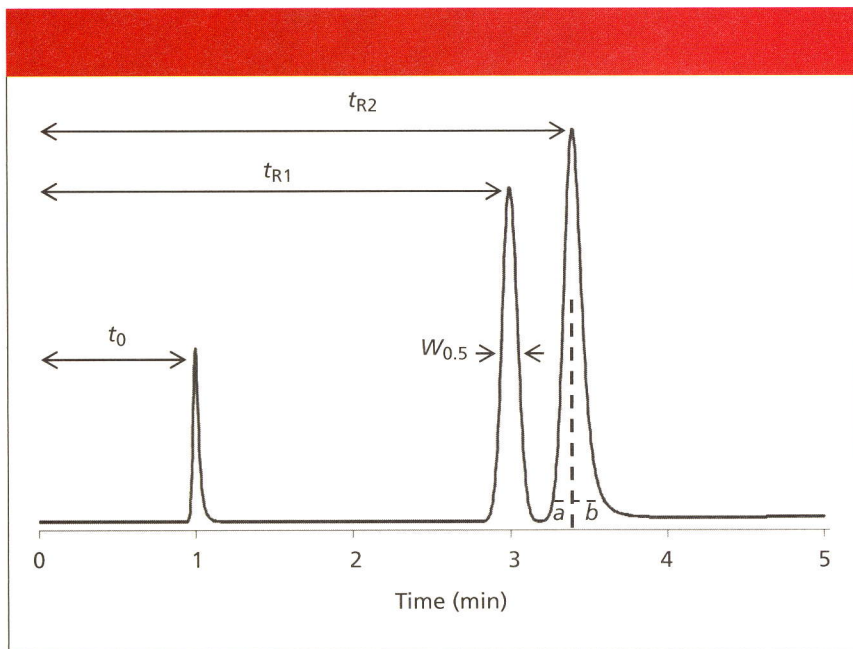

Figure 1: Simulated chromatogram to illustrate calculation of retention factor, tailing factor, resolution, and column plate number.
where t_R and t_0 are the retention time and column dead time, respectively. These are defined as illustrated in Figure 1. The dead time usually is determined either by injecting an unretained substance or identifying the first baseline disturbance in the chromatogram, often referred to as the solvent peak. Retention time is measured from the time of injection to the peak maximum. Ideally, you would like all peaks to be eluted in $2 <$
$k < 10$ for the best chromatographic performance, but $1 < k < 20$ is acceptable, especially for more complex samples. With $k < 2$, peaks can be poorly resolved from the unretained material at t_0 in most chromatograms, and retention is more sensitive to small changes in the mobile phase composition than when $k > 2$. The FDA (2) recommends $k > 2$. For Figure 1, $t_0 = 1.00$ min, $t_{R1} = 3.00$ min, and $t_{R2} = 3.40$ min, so $k_1 = (3.00 - 1.00)/1.00 = 2.00$ and $k_2 = 2.4$.
where a and b are defined as shown in Figure 1. A vertical line is dropped from the peak apex and the front and back half-width of a peak at 5% of the peak height are measured. The FDA (2) recommends $T_f < 2$, but you will have better looking chromatograms, improved quantification, and fewer problems separating minor peaks from major ones if you target $T_f \leq 1.5$. For peak 2 of Figure 1, $a = 0.10$ min and $b = 0.16$ min, so $T_f = (0.10 + 0.16)/(2 \times 0.10) = 1.30$.
where t_1 and t_2 are the retention times of peak 1 and peak 2, respectively, and w_1 and w_2 are the baseline peak widths measured between tangents drawn to the sides of the peak. Determination of the baseline peak width is inconvenient, especially if the baseline is noisy or drifting and if the peaks are not fully separated. Most workers prefer measuring the peak width at half the peak height, $w_{0.5}$, as illustrated in Figure 1, because it is easier and less error-prone. Now equation 3 becomes
For Figure 1, $w_{0.5,1} = 0.112$ min and $w_{0.5,2} = 0.126$ min, so $R_s = (3.40 - 3.00) / 1.7 \times 0.5(0.112 + 0.126) = 1.98$.
A new 150-mm column packed with 5-mm diameter particles or a 100-mm, 3-mm column will generate $N = 12,000$ or more with an well-behaved test compound, but more in the range of $N = 10,000$ for real samples. The FDA (2) recommends $N > 2000$. This could be obtained with a poorly performing 50-mm, 5-mm column, so in my opinion, this criteria is not worth much in terms of evaluating the quality of the column. For peak 1 of Figure 1, $N = 5.54(3.00/0.112)^2 = 3975$. One thing to keep in mind is that equations 5 and 6 are for isocratic separations; they will not work for gradient conditions.